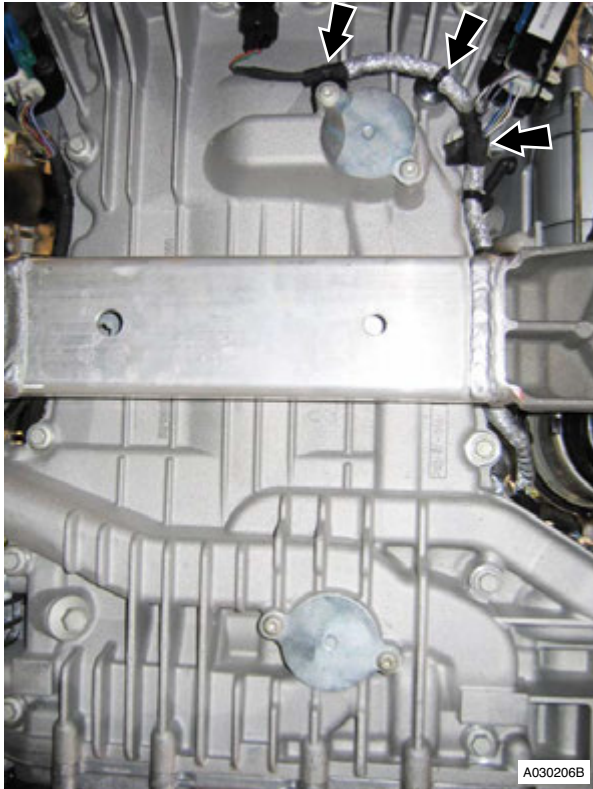

Figure 6
7. Remove oil filter adaptor (refer to Figure 6).